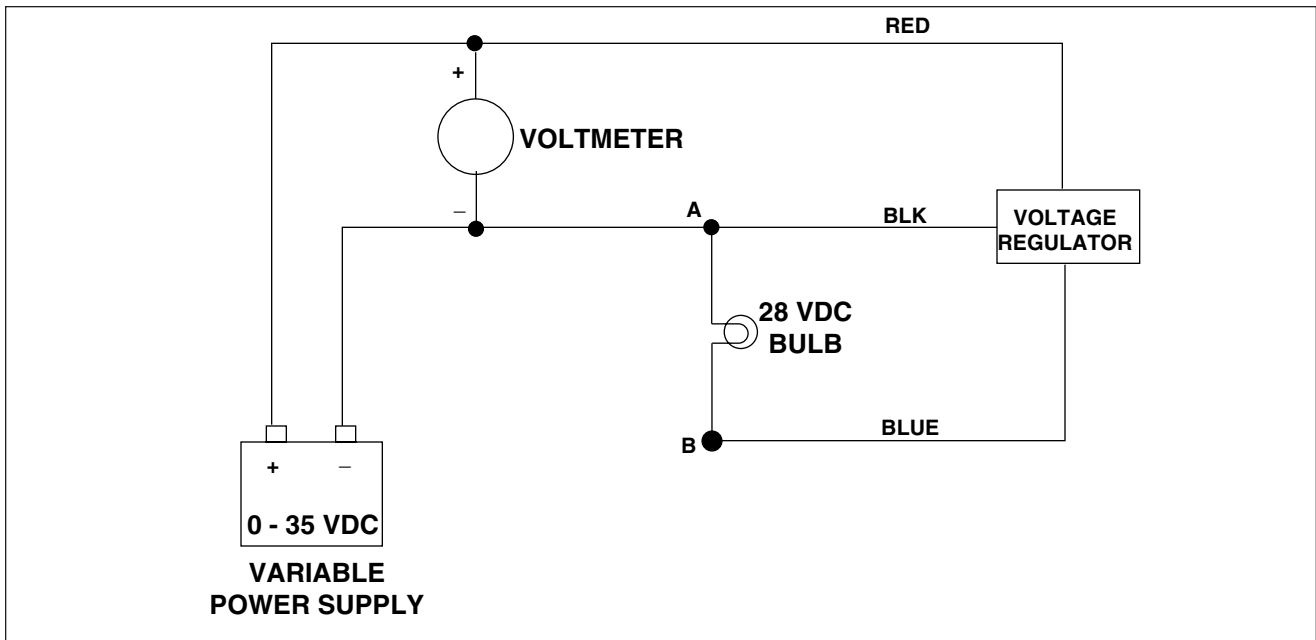

Figure 24-59. Lamar 28 Vdc Regulator Check
- (1) Voltmeter connections. (Refer to Figure 24-59.)
- (2) Light Bulb Connections. (Refer to Figure 24-59.)
- (3) In the regulation check procedure, increase voltage to regulator and monitor both the voltmeter and bulb.
- (4) As the regulation point of a properly functioning control unit is approached, the bulb will blink OFF and ON. At regulation, the bulb will be ON continuously.
- (5) If regulator does not regulate to 28 Volts, it is out of calibration, and must be replaced.